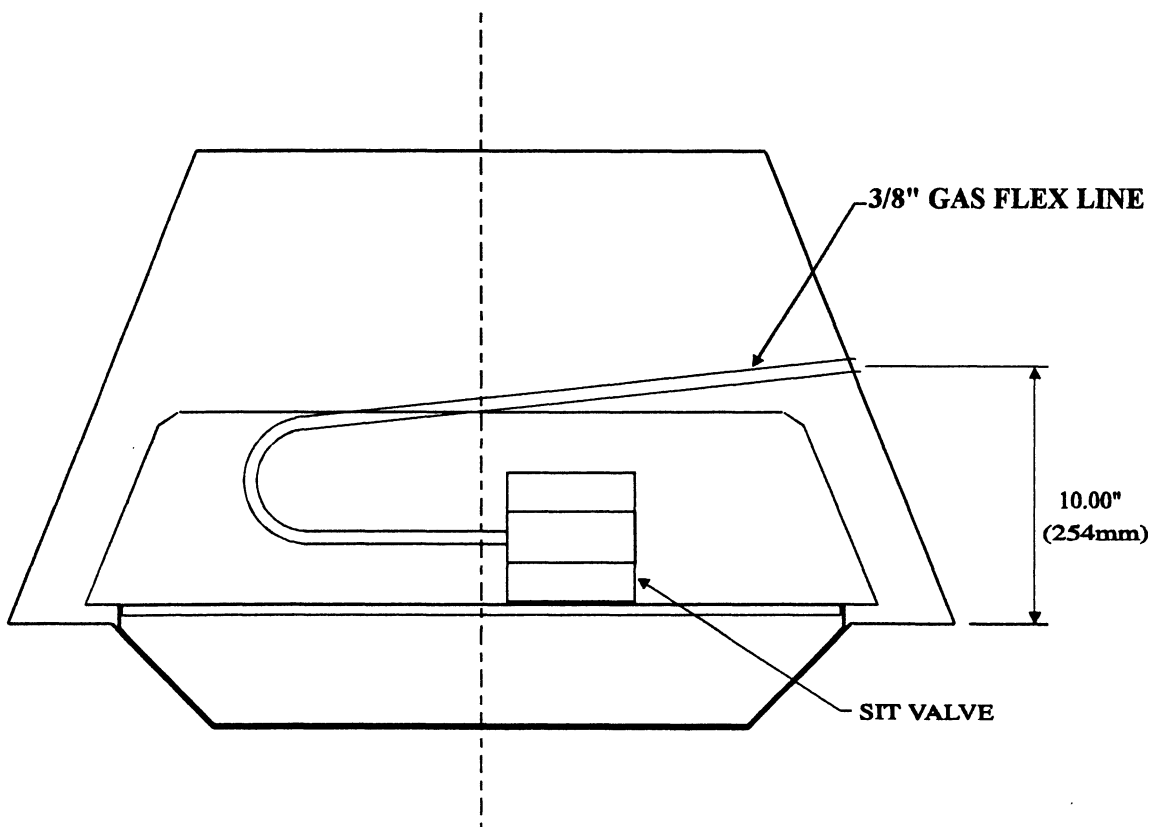

Figure 10
1. The gas line on the right side of the fireplace is shown in figure 10. An AGA & CGA approved shutoff valve can be installed to the flexline if so desired.